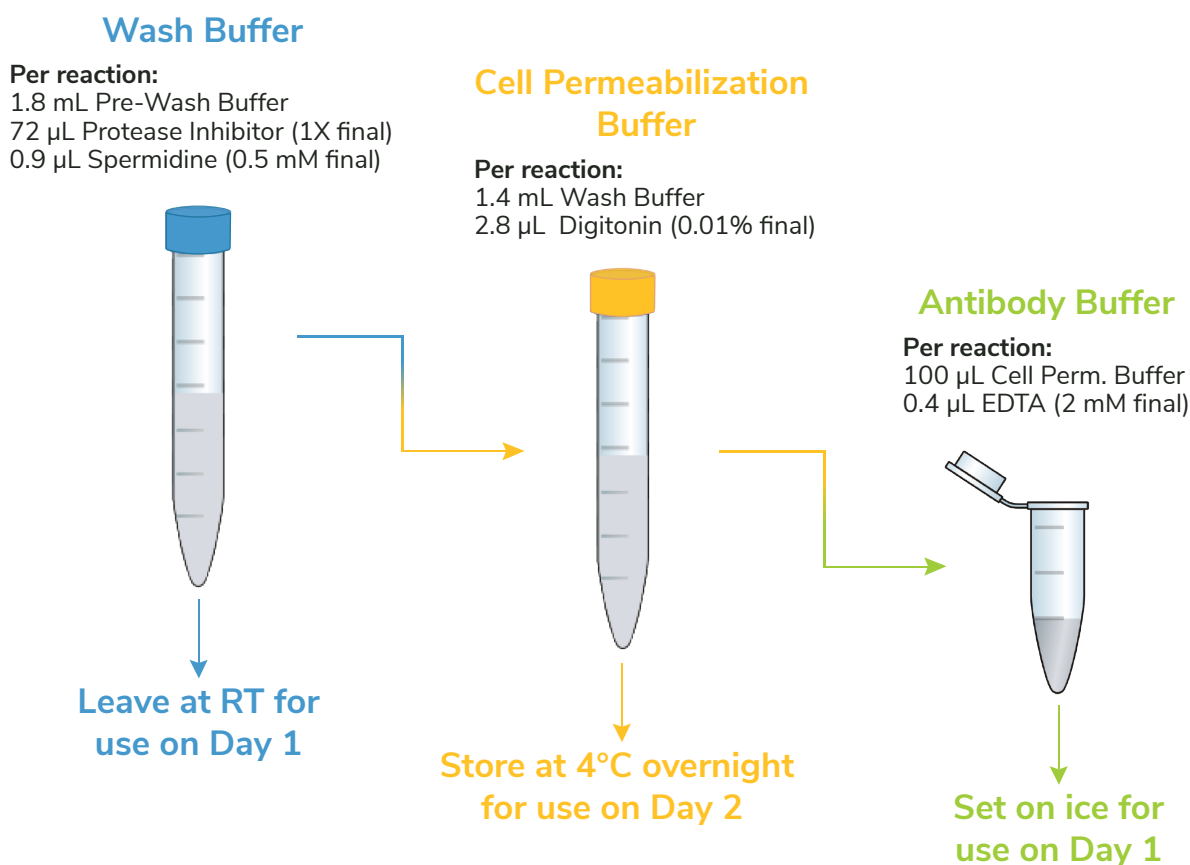

FIGURE 7
- * Buffers (Figure 7) are prepared FRESH on Day 1 of every CUT&RUN experiment.